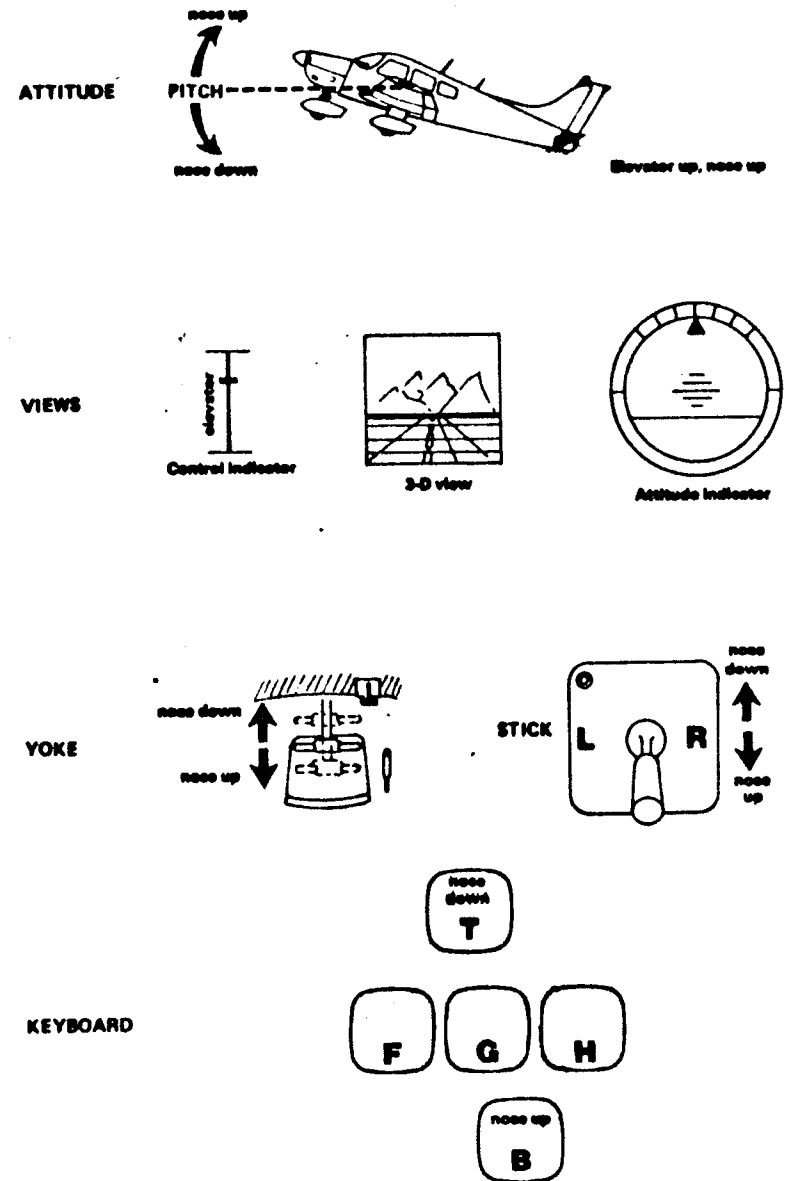

Figure 4. Elevator – Controls and Effects
Figure 4 shows the yoke's elevator control function and effects.
8. Watch the elevator control indicator on the panel (see Fig. 4).